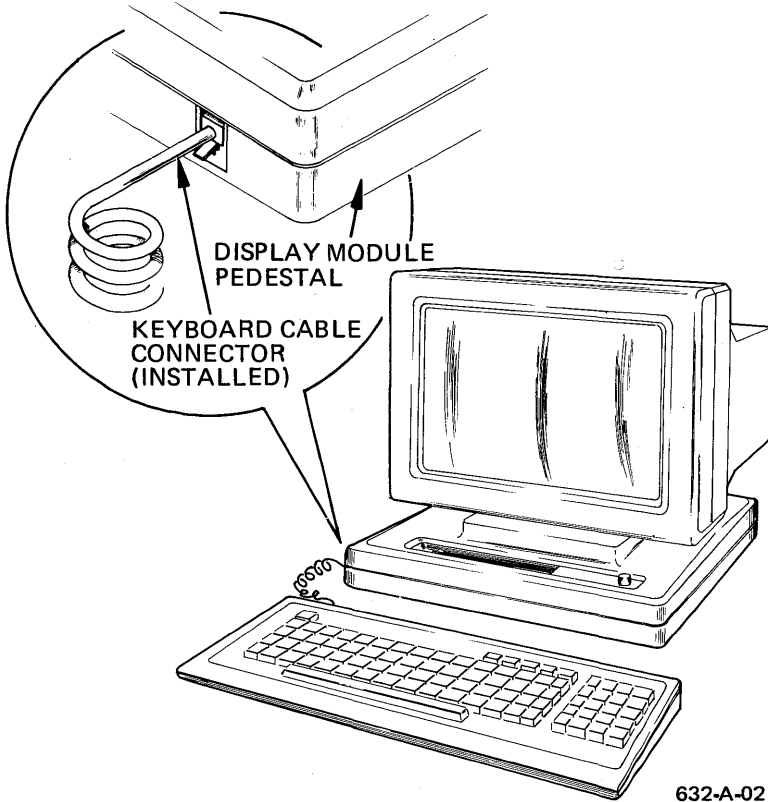

Figure 2-3. Keyboard Cable Connection to the Display Module
5. Connect the coiled keyboard cable to the connector on the left front corner of the display module pedestal (refer to figure 2-3).